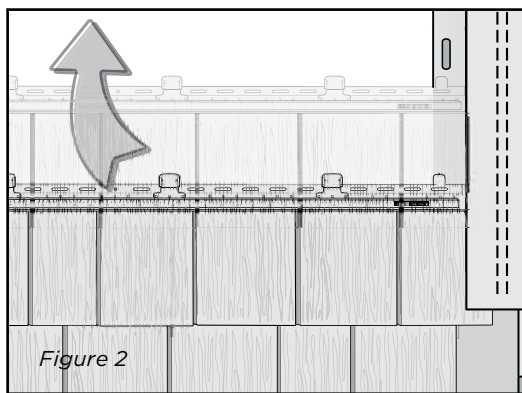

Figure 2
2. Starting on the right side of the wall, hook the bottom locking leg of the panel into the starter strip and slide the panel into the cornerpost or receiving channel (*Figure 2*). Leave 1/4" space between the panel and the corner for expansion. If you are planning to install the Mitered Cornerpost, space the panel 3" from the corner.